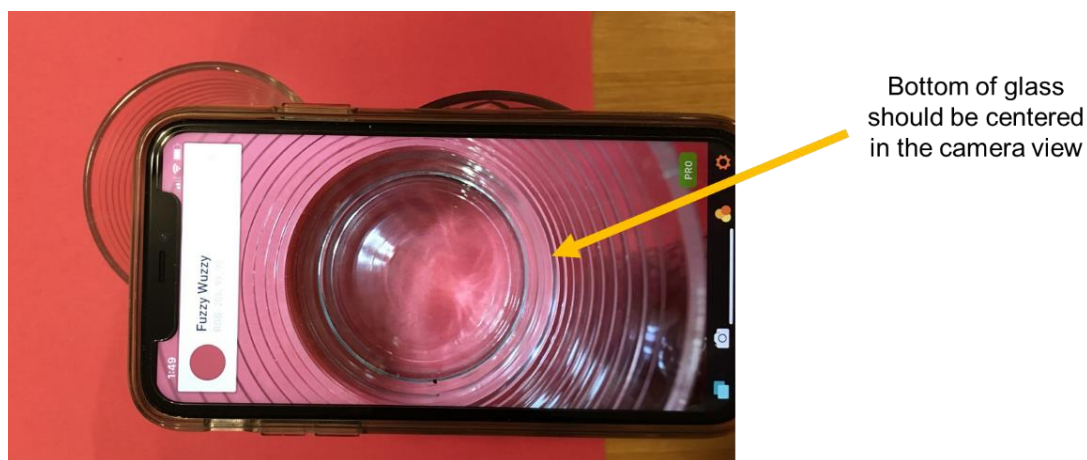

Figure 4: Positioning of the smartphone camera centered over the glass
- Set up your timer, smartphone and a stand to hold your smartphone as seen in Figure 4. Make sure the bottom of the reaction glass is centered in the camera view.